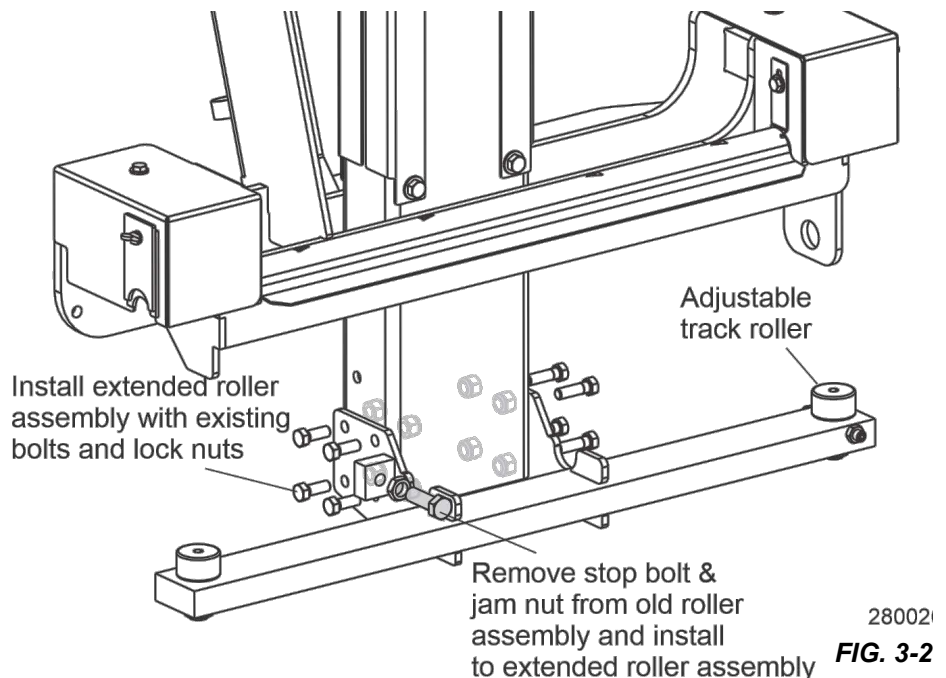

FIG. 3-2
- 3). Position the saw head over the beam and lower the saw head onto the beam until weight is removed from the lower track rollers. **See Fig. 3-2.**